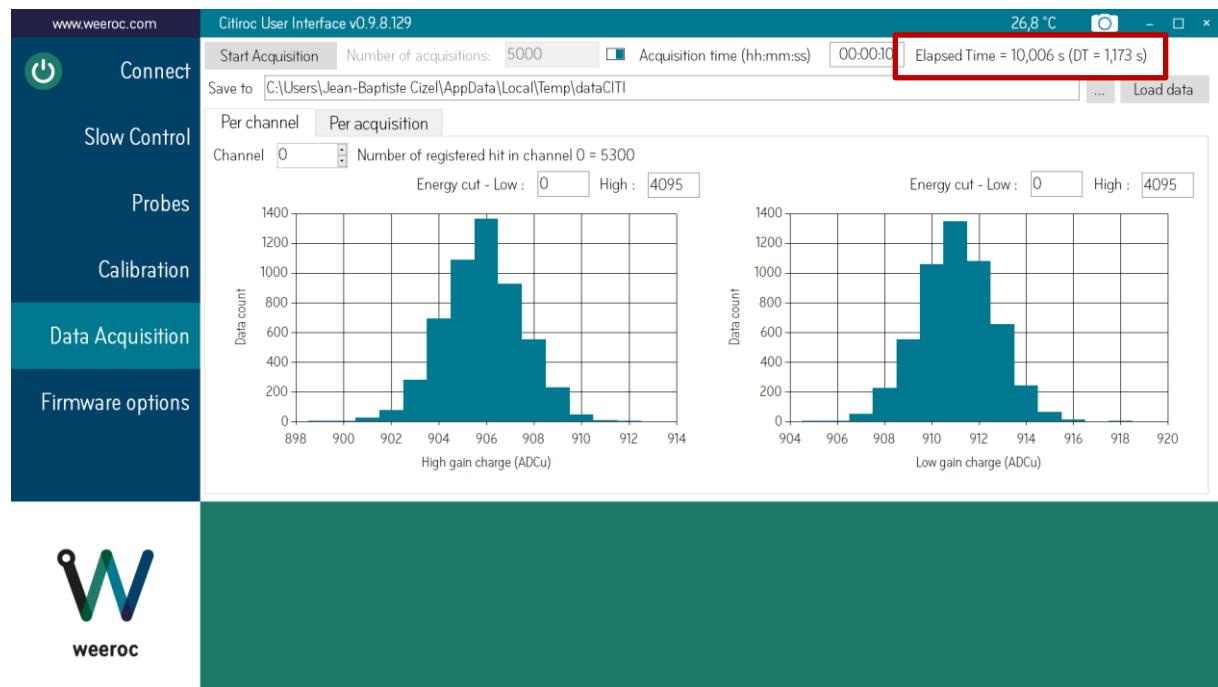

Figure 24 – Elapsed time and dead time
The elapsed acquisition time is given at the end of the acquisition on the top right corner. The dead time (DT) is also given and corresponds to the data processing time where the ASIC isn't working. On Figure 24 it is shown that on a 10 seconds acquisition there is about 12 % of dead time. This is the maximal dead-time since the ASIC is triggering at its maximal rate with a threshold below the pedestal. It is worth noting that the firmware send the acquisitions to the computer 100 by 100. It means that, in the case of the acquisitions on a certain amount of time, if the total of acquisitions when the timer stops is 5382 for example, the 82 last acquisitions will be lost.